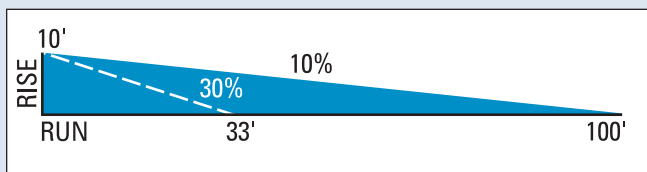

Figure 11-2:  $\text{Road Grade \%} = \text{Rise} \div \text{Run} \times 100$ .
- ✓ Road grades should not exceed 10 percent. If road grades greater than 10 percent are necessary, limit grade length to minimize erosion, or break the grade using drainage structures (see "Drainage Structures" on page 149). Graveling the road surface on steep grades can also help maintain stability. Note: Optimum road grades should be less than five percent (see Figure 11-2).